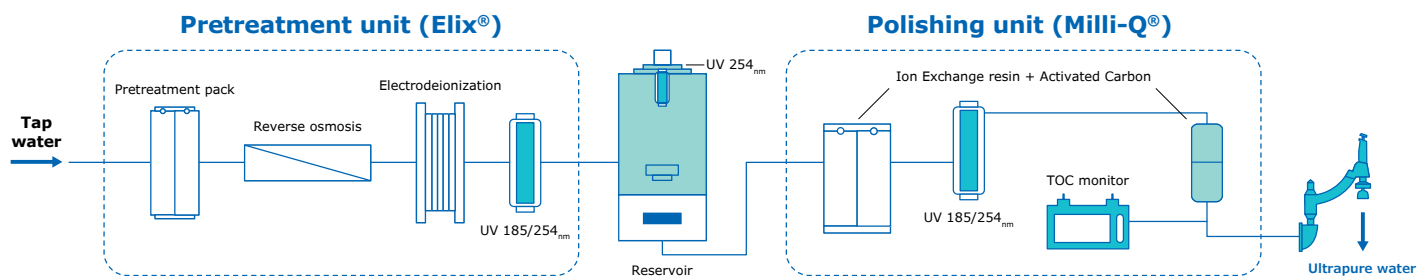

Figure 4.
Figure 4 shows the combination of water purification technologies that is recommended for (U)HPLC and LC-MS analyses. The water purification chain starts with a pretreatment pack following by a reversed osmosis (RO) membrane. Together these technologies will decrease the level of organics from 1000 ppb to 50-100 ppb and provide Type 3 water in which > 95% of all ions have been removed.